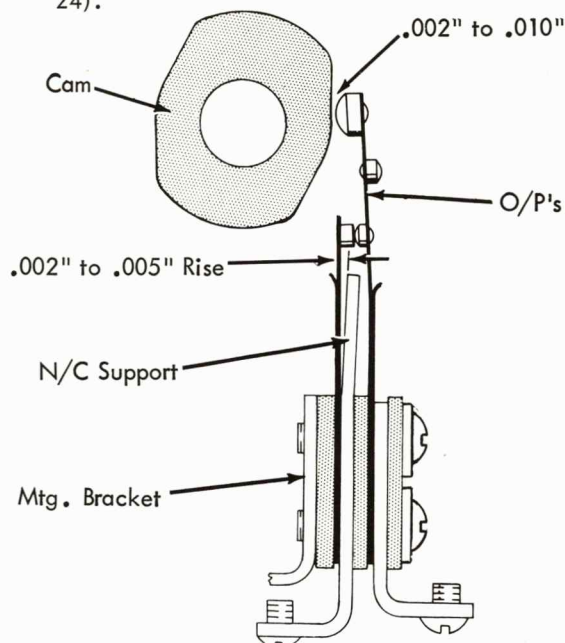

FIGURE 24. Print Feedback Contact C-2
1. Form the N/C support so that the O/P lifts the N/C contact .002" to .005" from the N/C support (Fig. 24).
2. Position the contact mounting bracket so that the O/P's clear the cam (at the low point) .002" to .010" (Fig. 24).